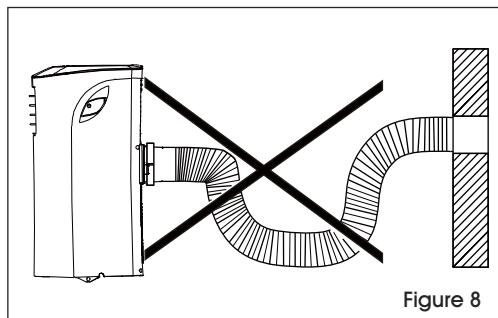

Figure 8
**NOTE:** The hose can be extended from its original length of 15" up to 59", but it is the best to keep the length to the minimum required. Ensure that the hose does not have any sharp bends or sags. (See Figure 8)